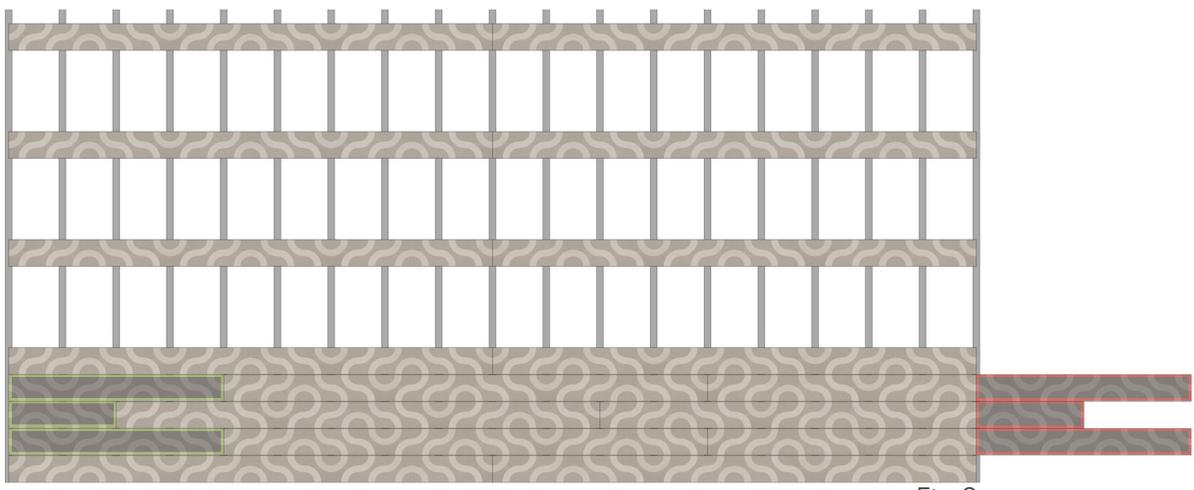

Fig.9
9. On most designs, the off-cut from the end of the run can be used to infill at the start of the run as shown in Fig 9. As this off-cut is taken from the middle of a board, a saw blades width has been taken from the pattern of the board. Therefore, a line will need to be cut at the start to make the starting edge straight.